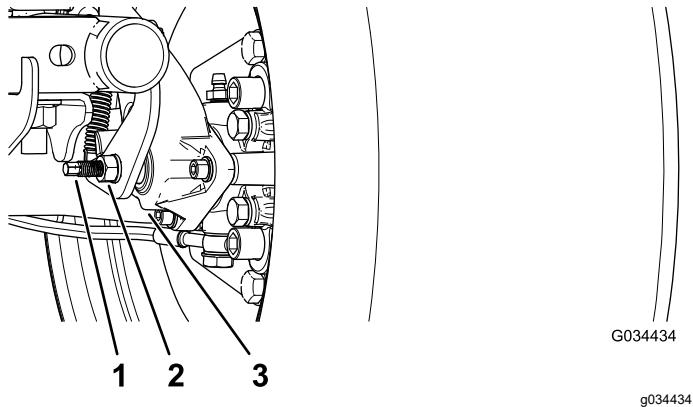

Figure 60
3. Using 2 wrenches, hold the adjusting post on the caliper in place with 1 wrench, and loosen the jam nut 1/4 turn with the other wrench (Figure 60).
4. While holding the adjusting post and the jam nut in place, turn the adjusting post in to tighten (Figure 60).
5. While holding the adjusting post and the jam nut in place, back off 1/4 turn (Figure 60).
6. While holding the adjusting post and the jam nut in place, tighten the jam nut (Figure 60).